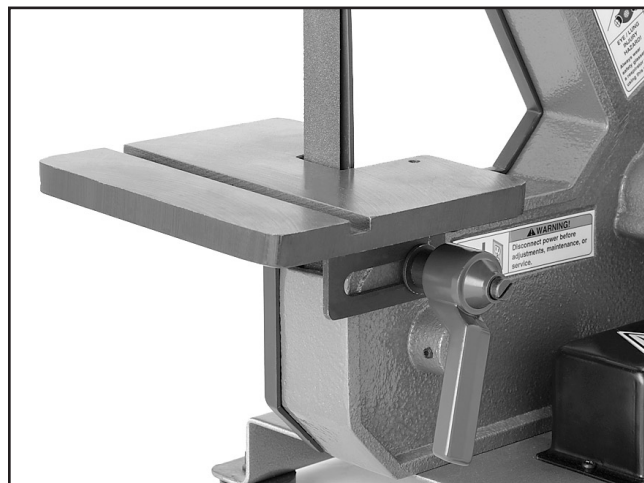

Figure 19. Sanding belt table installed.
20. Install the belt table with a $\frac{1}{16}$ " clearance from the sanding belt, and secure it in place with the table lock handle (see **Figure 19**).